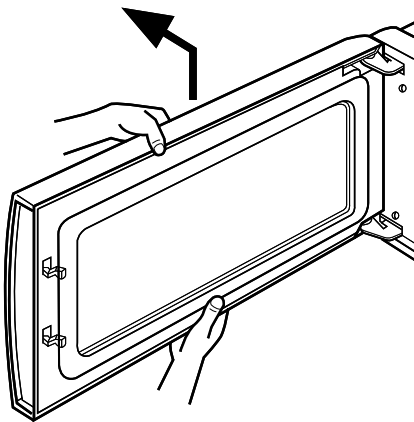

Figure 14
F. REMOVING DOOR (Figure 14)
- (1) Remove the vent grille by two screws securing it to the outcase loosening.
- (2) Lift up and draw the door.